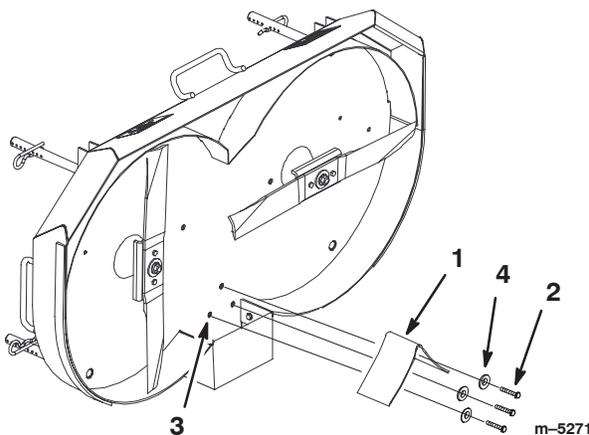

Figure 37
3. Remove screws and washers that are installed into deck for securing mulching baffle (Fig. 37).
4. Install baffle using hardware that was removed. (Fig. 37).
2. Remove screws, washers and mulching baffle from the mower (Fig. 37).